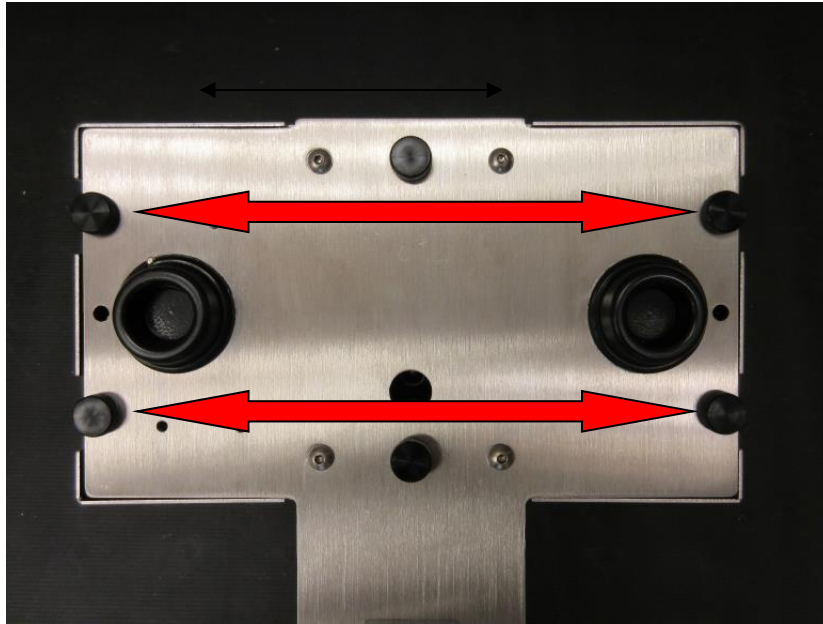

Figure 5.1.1 Cover screws
- Ensure air and power supply has been disconnected from the unit prior to removing the cover. Remove the four thumb screws securing the cover to the base plate. Lift cover out of the way. **Figure 5.1.1**